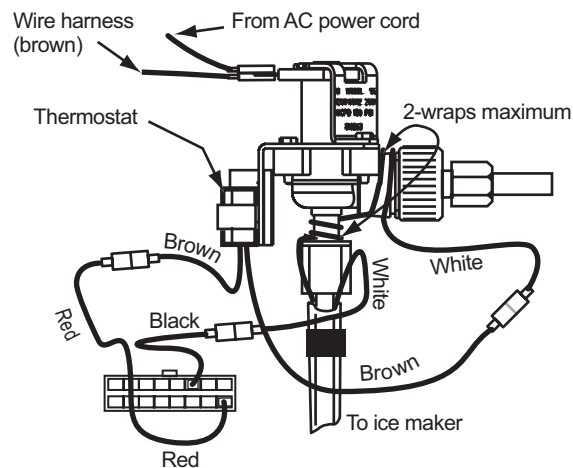

Figure 53. Solenoid water valve (models without water dispenser)
The ice maker water valve, see Figure 53, is solenoid operated. This valve is located on the back of the cabinet on the bottom of the refrigerator. The solenoid is supplied 120 Vac through the ice maker wire harness. Spring pressure maintains the valve shut when the solenoid is not energized.
3. Carefully wrap one white heater wire around the valve as shown in Figure 53. *Do not exceed two wraps at each point.*